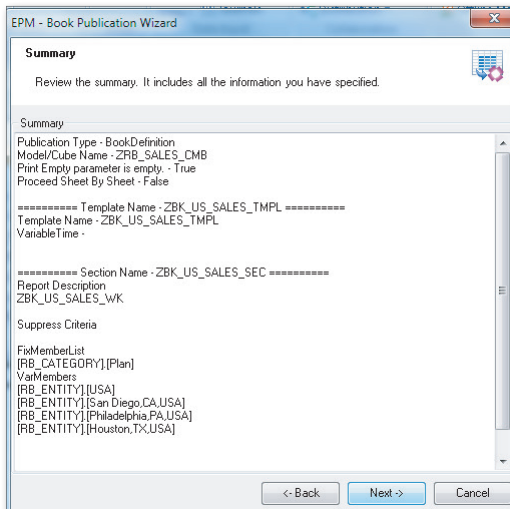

Figure 7.36 Publishing a Book Template—Part E
7. The new dialog box confirms the reports that will be created and the selections that will be used for publishing the reports (Figure 7.36). Click on NEXT to publish the selections.